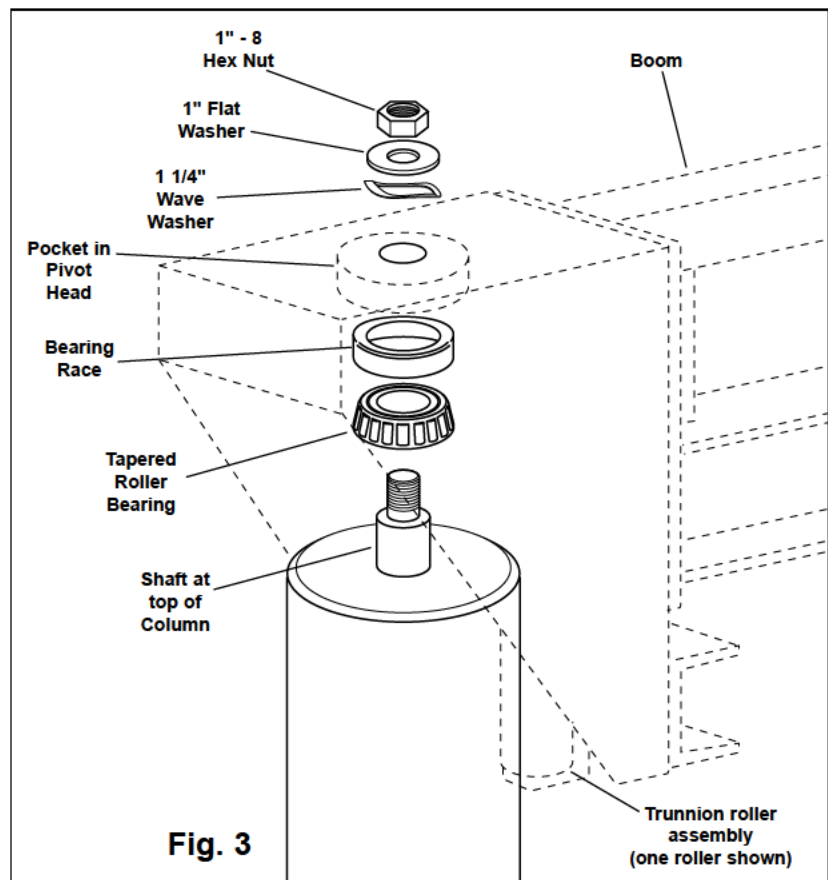

Fig. 3
5. Liberally apply grease to tapered bearing. Slide bearing onto shaft at top of column. Small diameter of bearing must be up (Fig. 3).
6. Push bearing race into pocket of pivot head (Fig. 3).
14. Check to make sure nut at pivot connection (Fig 3) and trunnion rollers are tight and properly adjusted.